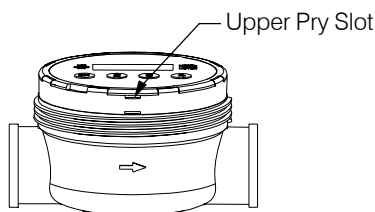

Figure 4
1. Unscrew meter cap (item 1). Use a strap type oil filter wrench or large 5" jaw pipe wrench if needed.
2. Insert a flat-head screw driver into the top slot (see Figure 4) and gently pry up electronics module.